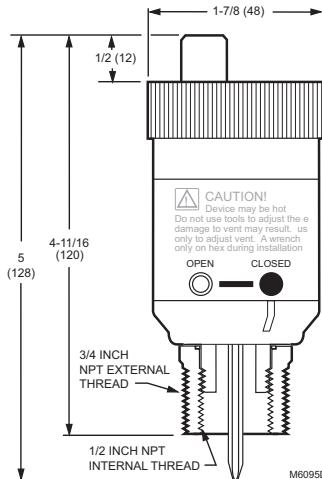

Fig. 1. EA79 dimensions in in. [mm].
**Dimensions:** Refer to Fig. 1.